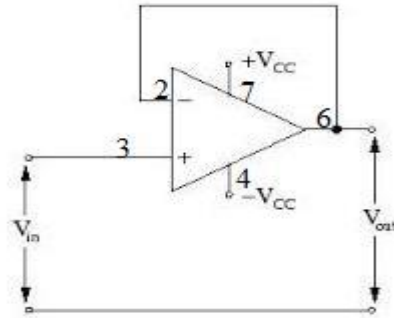

Fig. 2.5: Voltage Follower
1. Connect the circuit as per the circuit diagram shown in Fig.2.5